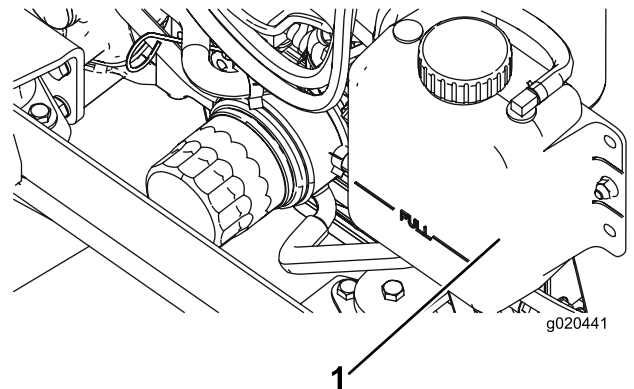

Figure 98
1. Carefully remove the radiator cap and expansion-tank cap (Figure 98).